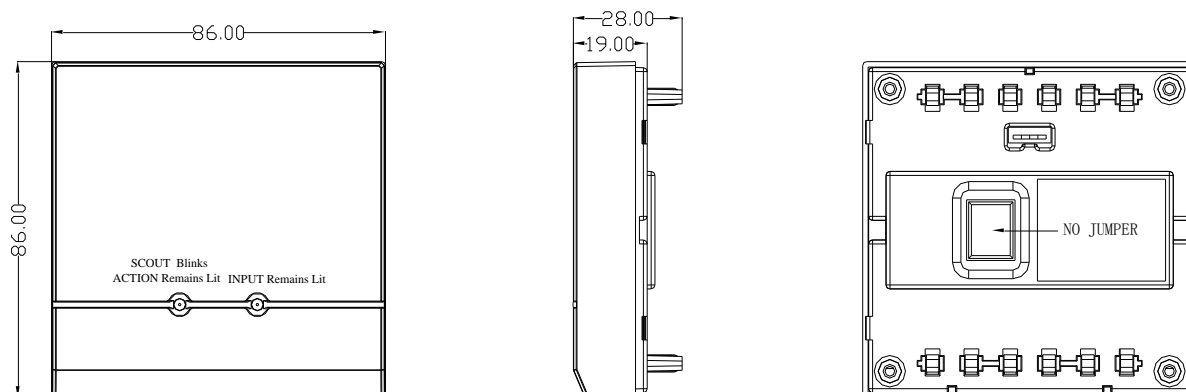

Fig.1 Main Body of the ATL-952 Module
2. Connect the 4-pin coding plug on the coder with the 4-pin coding socket (see Fig.1) on the main body of the ATL-952 module, and then set the coder with the coding function and compile the correct address code to finish the address coding.